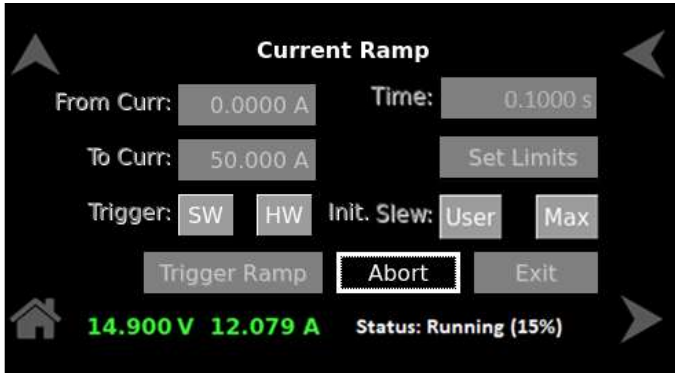

Figure 10-88. Status – Running
d) **Running:** When the system is executing the trigger ramp process, refer to Figure 10-88.